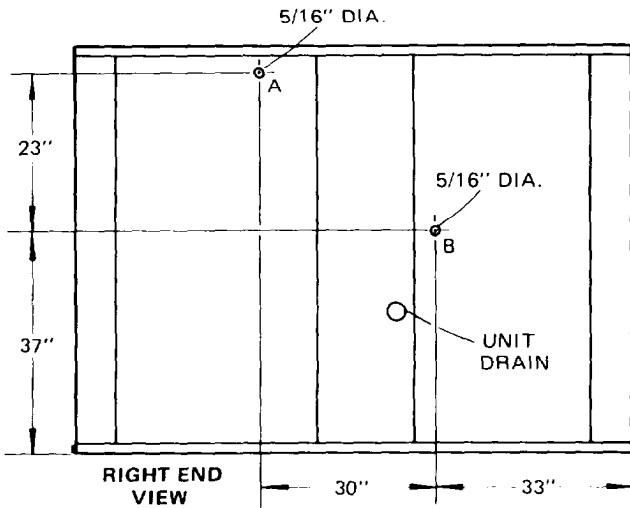

FIG. 16 – HOLE LOCATIONS FOR SUPPLY AIR CFM CHECK
1. Drill two 5/16" holes (A & B) as shown in Figure 16.